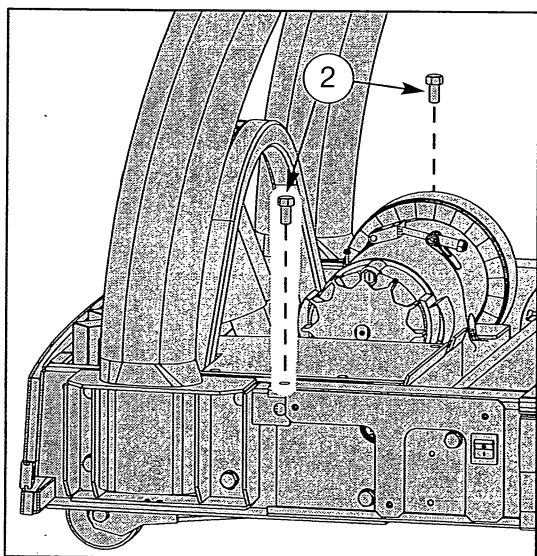

Figure 4
- A. Using a 9/16" socket wrench, loosely attach the uprights with two of the 3-8-16 x 5-8 hex head whiz-lock screws. **NOTE:** Do not securely tighten the screws until step 7C. See Figure 4.